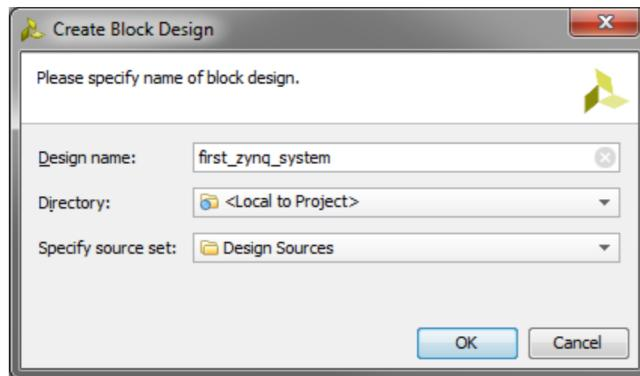

Figure 1.9: Create Block Design dialogue
- (b) Enter ***first_zynq_system*** in the Design name box, as in Figure 1.9: